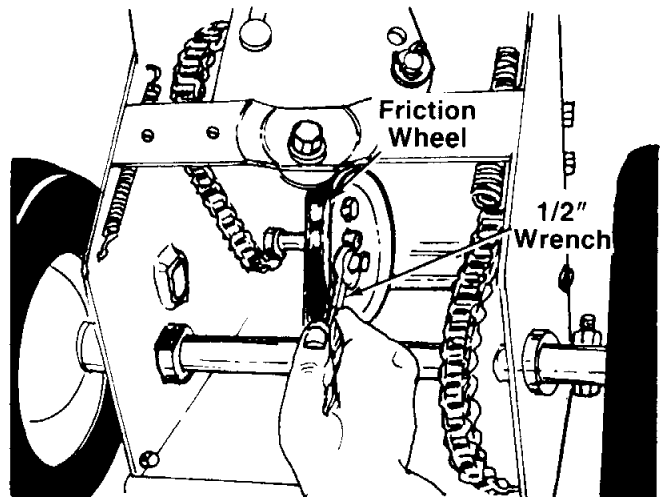

FIGURE 37.
4. Using a 1/2" wrench, remove three hex bolts holding the friction wheel to the friction wheel adapter. See figure 37.